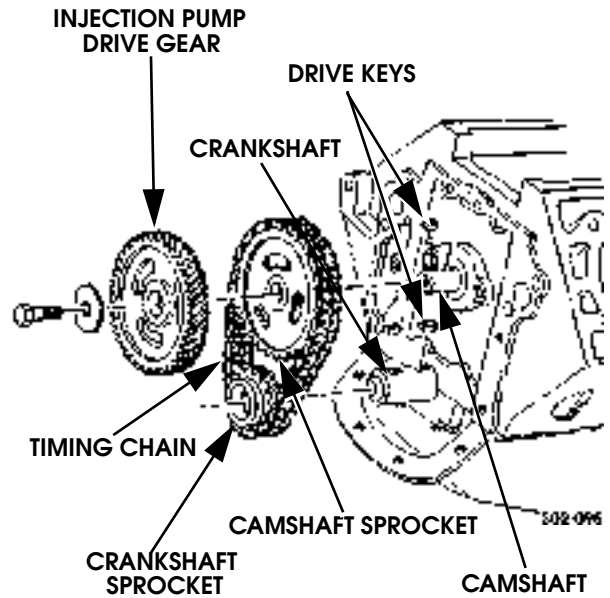

Figure 2-88: Timing Chain, Drive Sprocket, Drive Gear Removal
4. Remove crankshaft sprocket, camshaft sprocket, and timing chain as assembly (Figure 2-88).